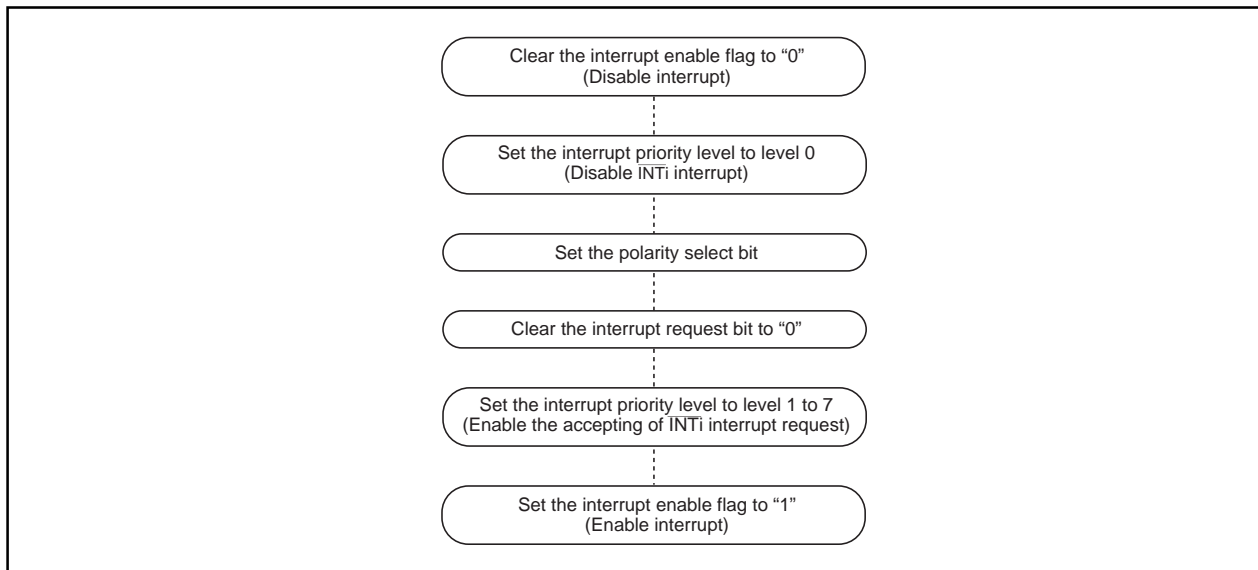

Figure 2.7.14 Switching condition of INT interrupt request
- When the polarity of the  $\overline{\text{INT}}_0$  and  $\overline{\text{INT}}_1$  pins is changed, the interrupt request bit is sometimes set to "1". After changing the polarity, set the interrupt request bit to "0". Figure 2.7.14 shows the procedure for changing the  $\overline{\text{INT}}$  interrupt generate factor.